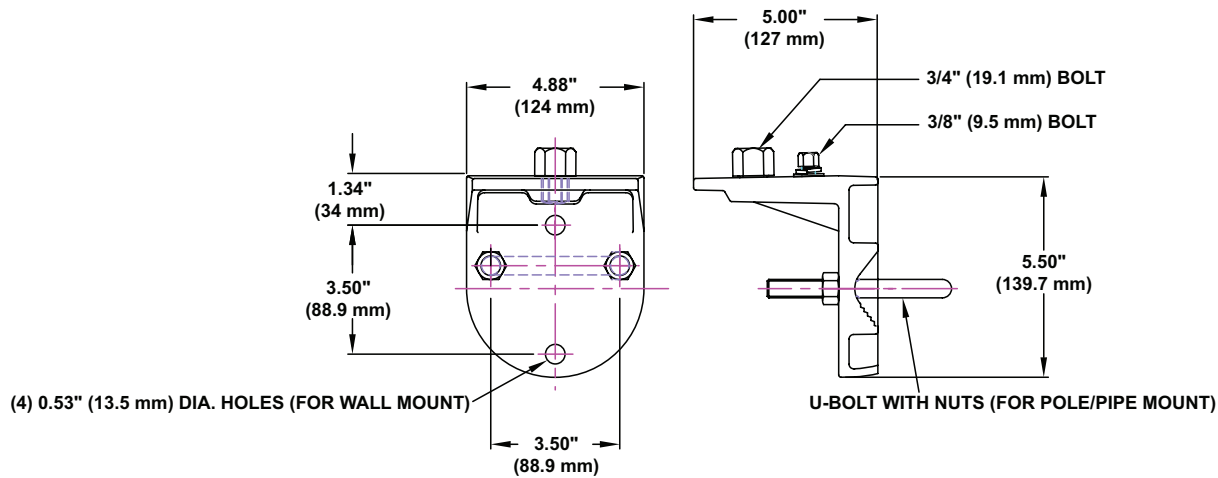

Figure 6: Pipe/Wall Mount Bracket (P/N: G-AM-8-WB)
3. Mount the pipe/wall mount bracket to a flat surface with user-supplied hardware or clamp to a pipe or pole (1 inch (25.4 mm) to 2-1/2 inches (63.5 mm) with U-Bolt and nuts (supplied). Tighten nuts to secure in position. See Figures 6 & 7.